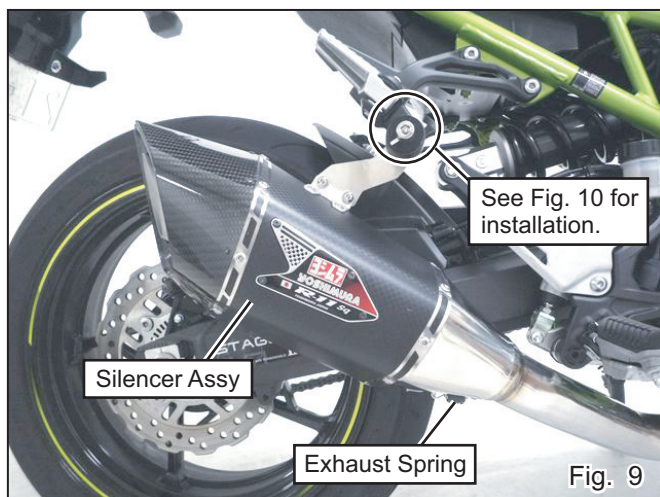

Fig. 9
- 10) Mount Silencer Assembly on Tailpipe and install Exhaust Spring. Then fix Silencer Bracket and stock silencer bracket together with stock bolt, stock washer and stock nut. Tighten the bolt by hand only at this stage. (See Fig. 9 & 10 on next page)